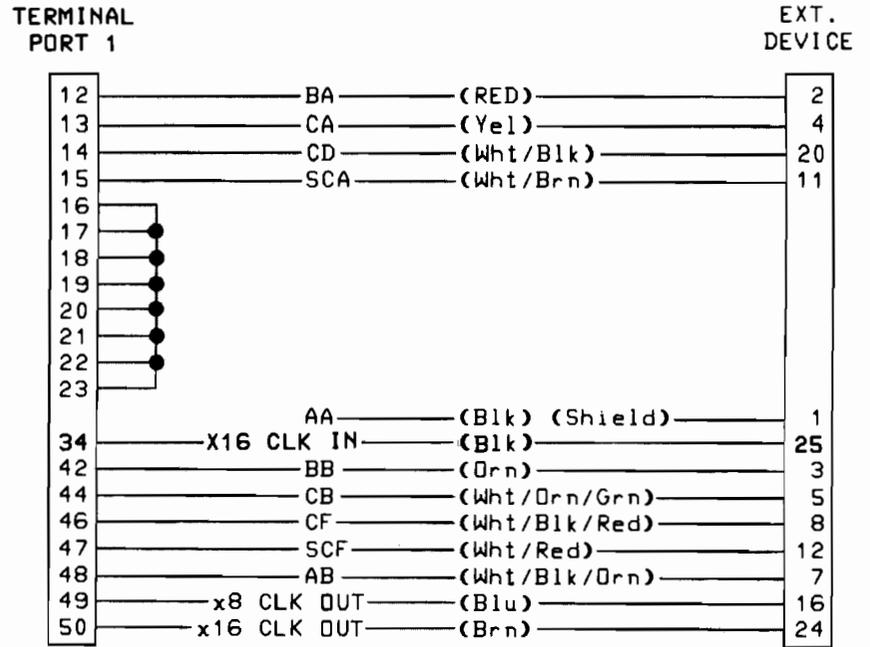

Figure 2-7. 13222C (RS232C) Cable Wiring
Pin-to-pin wiring for data communication cables is shown in figures 2-7 to 2-16. Table 2-1 translates the RS232C/CCITT V.24 (European equivalent) signal identification code for each signal to the name of the signal.
1. Solder a bare wire, size 24 AWG, between the pins connected together in figures 2-7 through 2-11.